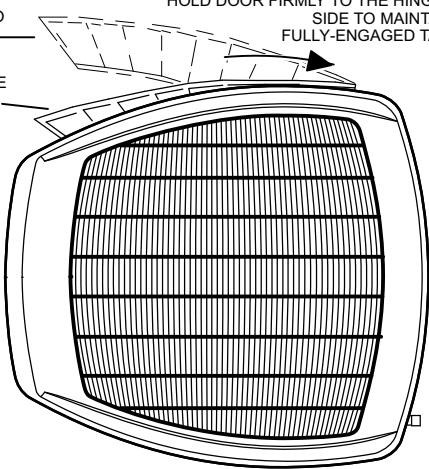

FIGURE 2
- 2-. **Hold the panel firmly throughout this procedure.** Rotate bottom corner of panel away from hinge corner post until lower 3 tabs clear the slots (see figure 2, Detail B).
- 3-. Move panel down until lip of upper tab clears the top slot in corner post (see figure 2, Detail A).
**Position and Install Panel**—Position the panel almost parallel with the unit (figure 2, Detail D) with the “screw side” as close to the unit as possible. Then, in a continuous motion:
- Slightly rotate and guide the LIP of top tab inward (figure 2, Details A and C); then upward into the top slot of the hinge corner post.